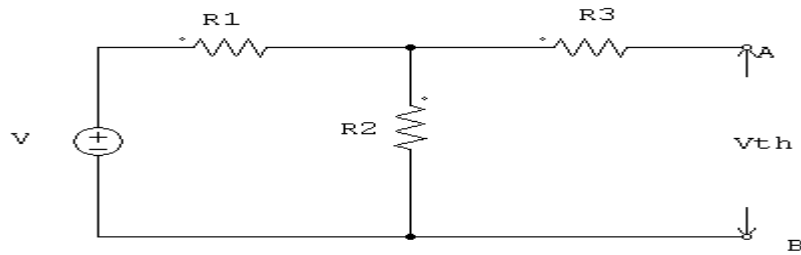

Fig.1.46
**Step 2:** Find open circuit voltage  $V_{th}$ . To find  $V_{th}$ , open the load resistance and find the voltage across the output terminals. Circuit is redrawn as follows in Fig.1.46.